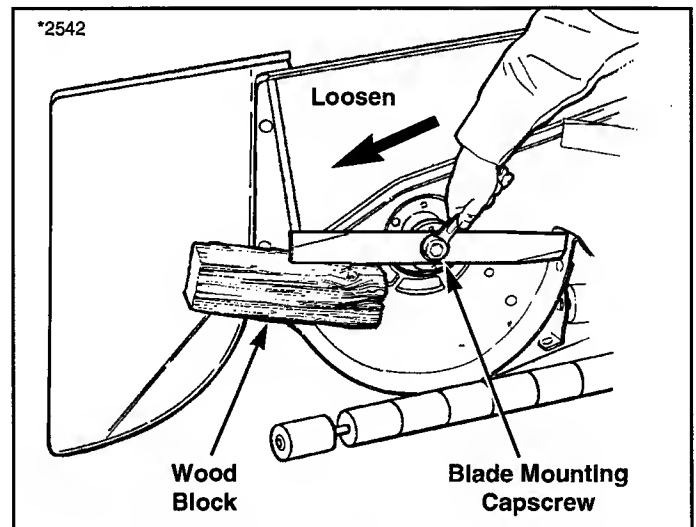

Figure 23. Removing The Blade
3. To remove blade for sharpening, use wooden block to hold blade while removing the blade mounting cap-screw (Figure 23).